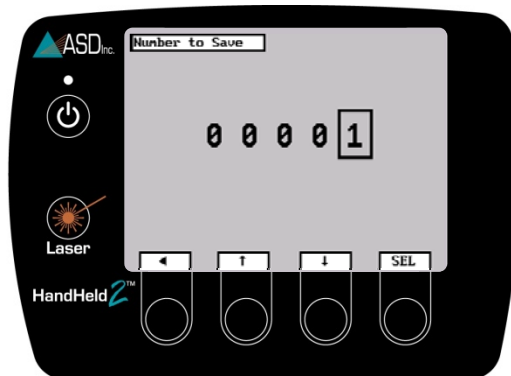

Figure 2-34: Adjust Number to Save
- Step 3 Press the left pointing arrow to move to the desired number position and press the up and down arrows to change the number (Figure 2-34).